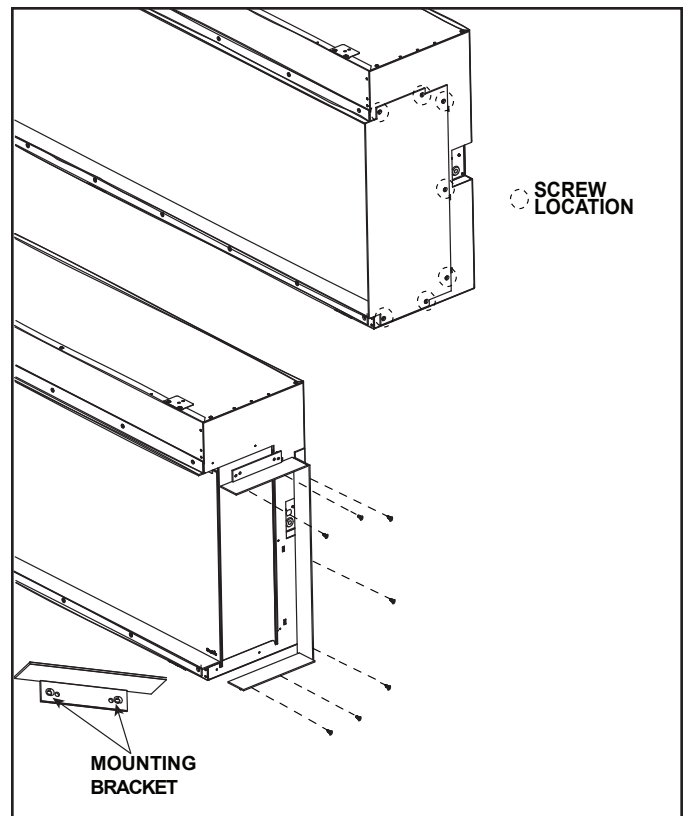

Figure 4.3 Plate Removal and Trim Install
1. To install the appropriate trim for the desired configuration, if applicable, remove the flat side cover plate from the side of the appliance by removing seven screws. See Figure 4.3.
**Note:** The bottom trim has 4 holes. See Figure 4.3.